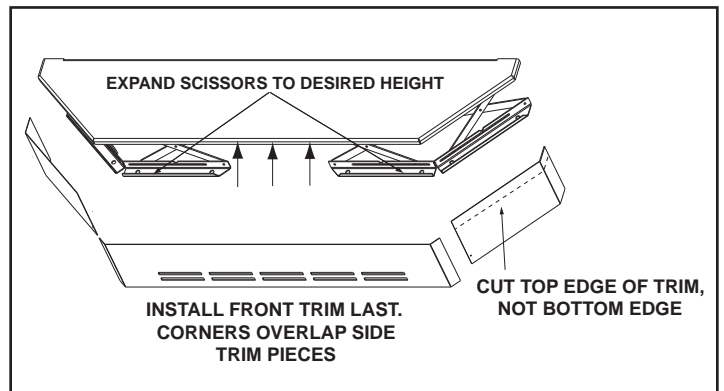

Figure 23.2
2. Expand scissors to desired height. Tighten screws to hold in place using Phillips Head screwdriver. **Figure 23.2.**
3. Measure front and side trims to required height to cover scissors and mark pieces for cutting. Cut excess material from **top** of trim's edge, not bottom. This edge will be sharp; wear gloves to prevent injury to your hands. **Figure 23.2.**